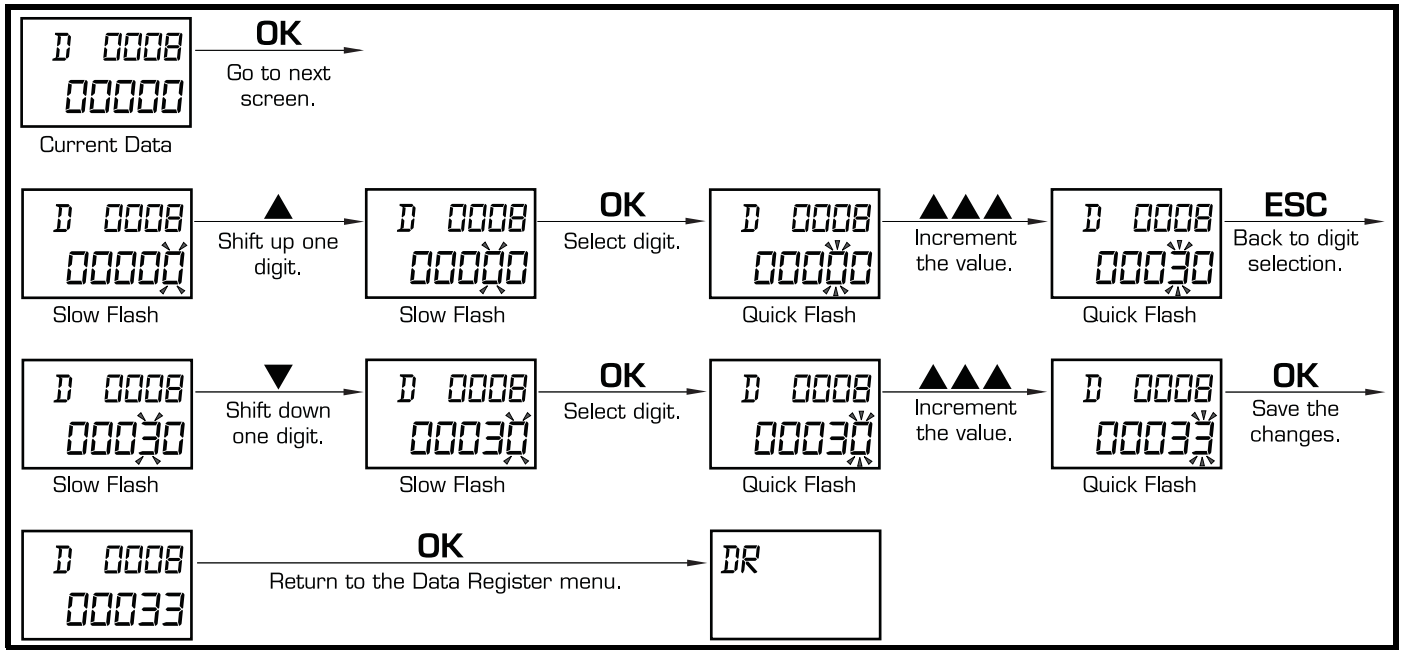

Figure 7. Setting Off Time
3. Follow the steps in Figure 7 to input the number of seconds between cannon firings for the selected off time interval.